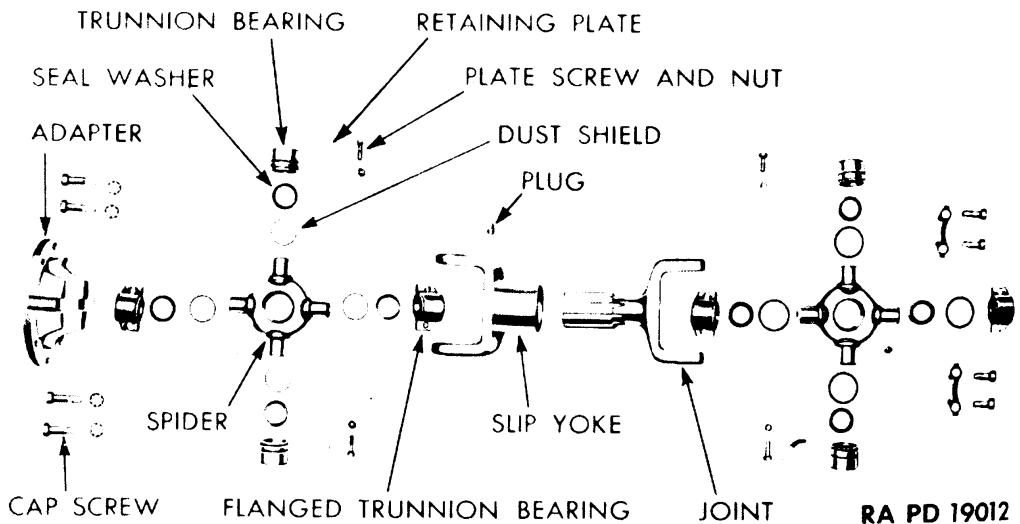

Figure 88 — Rear Axle Propeller Shaft — Disassembled
b. **Rear Axle Propeller Shaft (fig. 88).** While the construction of the rear axle propeller shaft is, in general, the same as that of the front axle propeller shaft, there are minor differences in construction. Disassembly is as follows: